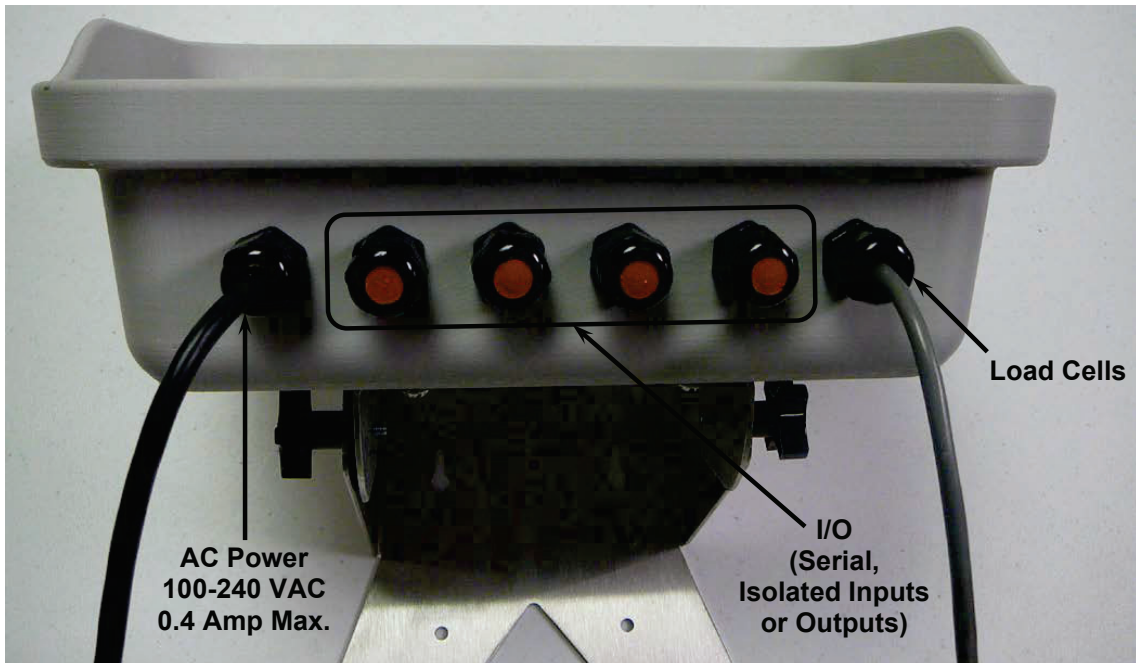

Figure No. 2
The following instructions describe the load cell connections routing the load cell cable through a standard gland connector. Refer to Figure No. 2 for illustration of connector layout.
2. Referring to Figure No. 2, choose a gland connector for the cable and then loosen it.
2. Loosen the gland connector for the serial cable. Refer to Figure No. 2 for the gland connector layout.
2. Remove a gland connector from the back panel. Refer to Figure No. 2 for illustration of connector layout.